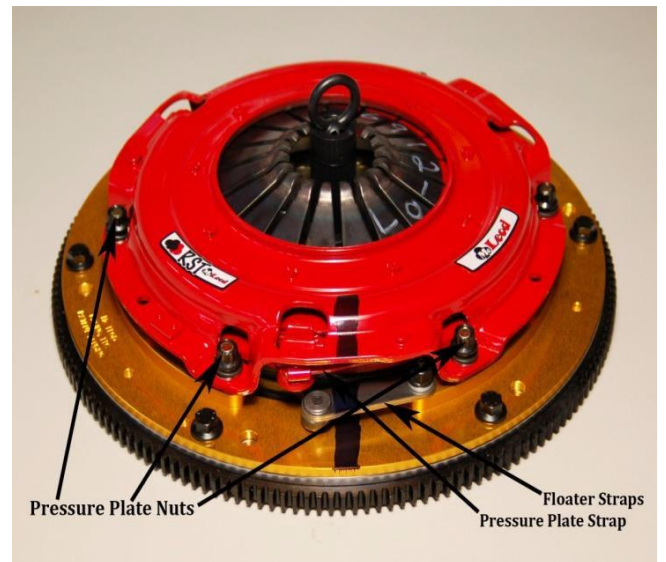

Figure 6
- 9) Install the pressure plate onto the studs on the adapter ring, pay special attention to the alignment of the drive straps on the floater and the drive straps on the pressure plate! All drive straps must be seen in the same raised opening on the side of the pressure plate. Alignment mark on Adapter ring and pressure plate must line up at this time. Do not offset the drive straps!! Figure 6